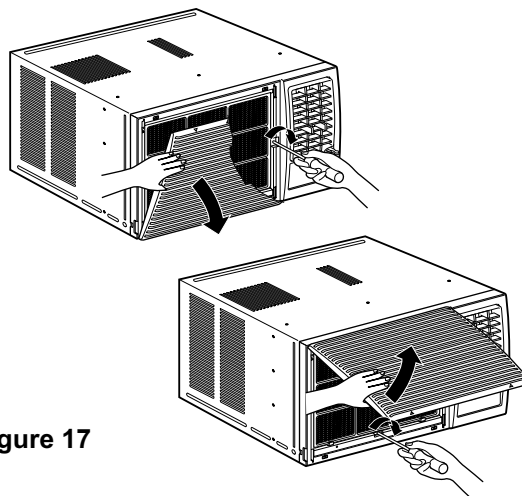

Figure 17
5. Re-install the component by referring to the removal procedure, above. (See Figure 17)